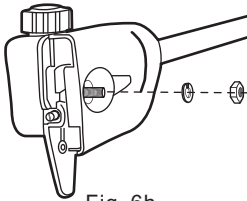

Fig. 6h
10. Put it together with the spring washer (D4) and cover (D2), and tighten locking nut (D3) with the socket wrench (E4) clockwise. (See Fig. 6h, 6i)